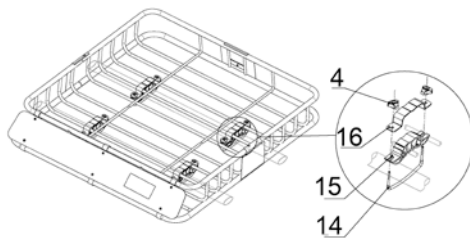

Fig. 5
8. Position two U-bolts (#14) under each roof bar. Place a bracket saddle (#15) onto each U-bolt so the roof bar is trapped between the saddle and U-bolt (Fig. 5).
9. Place the roof rack onto the bracket saddles. The frame's bottom crossbars should sit on the brackets without interfering with the U-bolts (Fig. 5)